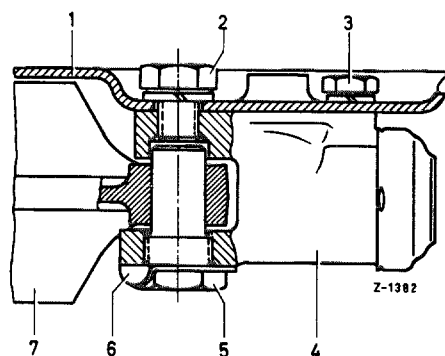

Fig. 42-8/4
The stop screw need not be removed since the anchor pin (5) stop is located in the wheel brake cylinder (4) (Fig. 42-8/4).